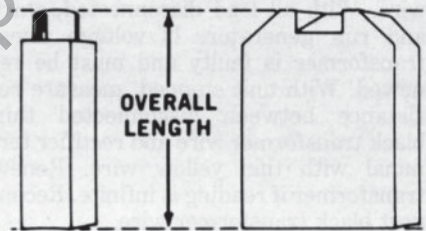

Fig. HL3-2—Measure length of brushes as shown.
To remove brushes, unscrew clamp screws and slide brush cover (20—Fig. HL3-1) off brush head (18). Unscrew set screws and remove brush caps (24) and brushes (25). Be sure to mark brushes so that they can be returned to their original positions. Check length of each brush as shown in Fig. HL3-2. Renew brush if length is 1/8-inch or shorter. Be sure to include length of projections for brush springs when measuring brush length.